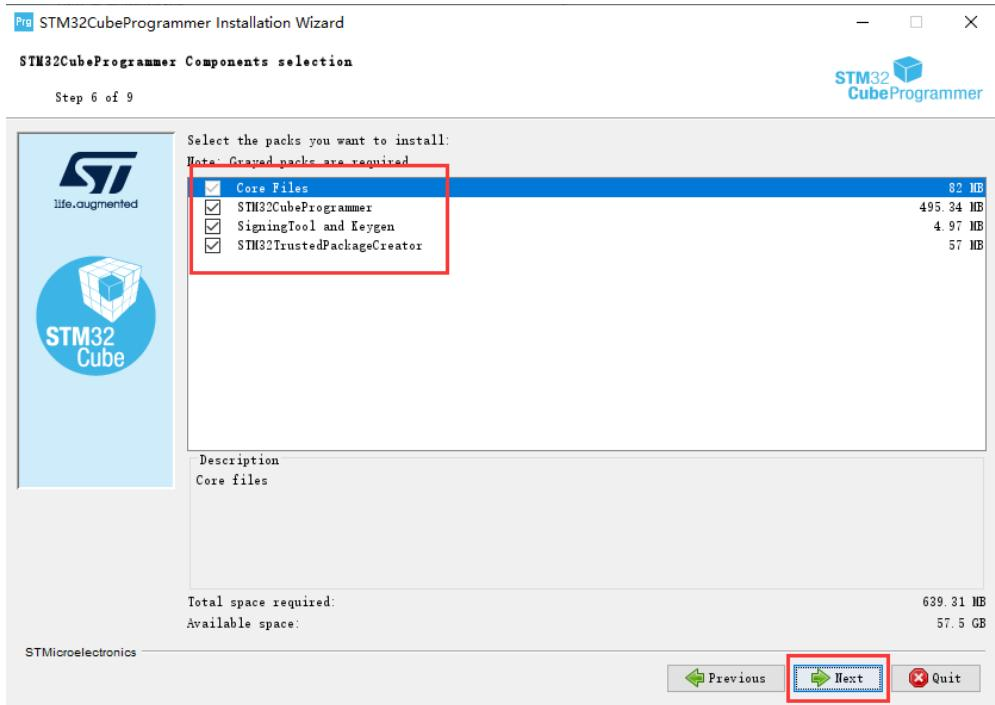

Figure 8-6
- 7) Check them all, as shown in Figure 8-6, then click Next: